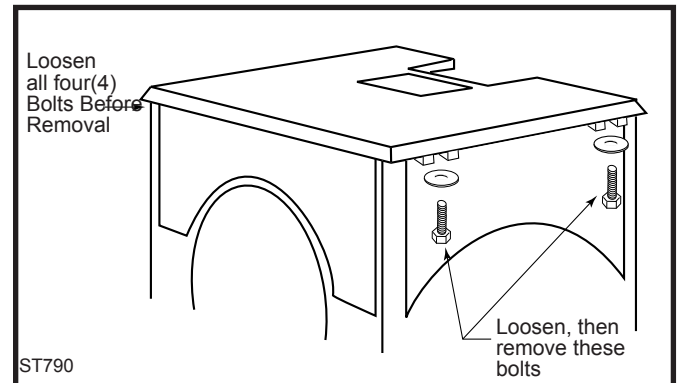

Fig. 1 Remove four (4) bolts to release the stove top.
4. Unfasten and remove the top. (Fig. 1) A bolt at each corner holds the top to the rest of the stove body. There is a gasketed seal between the stove top and the rest of the body. Lift off the stove top and set it aside, upside down. Check the gasket for compression or wear; replace if necessary.